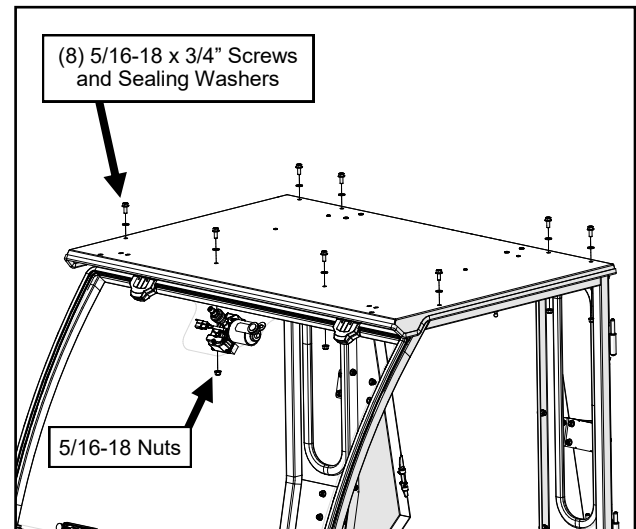

Fig. 10.1 (Install Roof)
- 10.1 With assistance, set the roof on top of the cab. Loosely secure with sealing washers on the (8) screws through the top of the roof. See Figure 10.1.